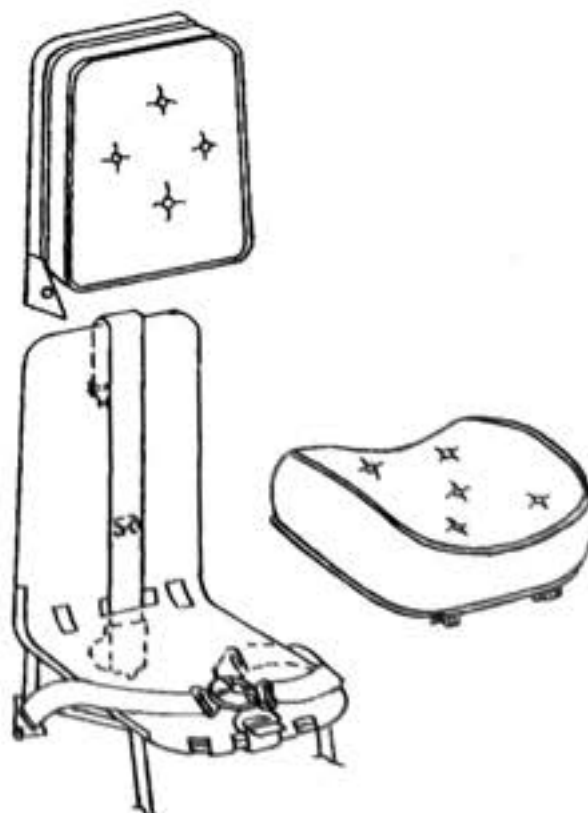

FIGURE 3-2 SEAT BELTS/ACRO HARNESS
① Cabin
- f) Seat Belts - CHECK CONDITION, SECURE rear belt and harness if not in use (see Figure 3-2).
- 1) Seat Belts/Shoulder Harness - FASTENED and adjusted (see Figure 3-2).